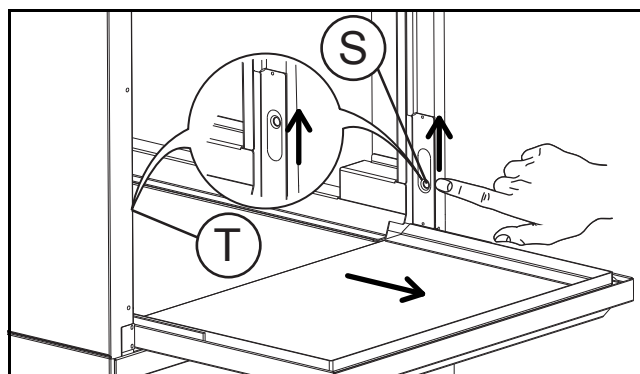

Figure 22 Release the door
- Release the door for access to the tank (Figure 22):